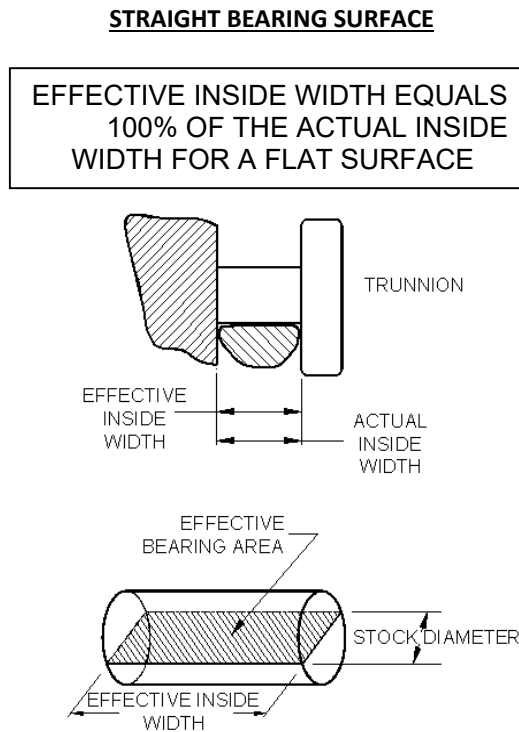

Figure 25
- a. **Connection to Flat-Bottom Surfaced Hardware** – Hardware connections with flat bottoms include pins, bolts and trunnions. The value of the effective contact width is equal to the opening width or spread of the sling at the connection area (See Figure 25). Please note, however, that the effective contact width will never exceed the natural flattening width of each sling, which are as listed in Tables 9 and 10 as the Minimum Effective Contact Width. For example, if a Size 2 polyester roundsling is connected to hardware that has a relatively large inside width, such as 4 inches, the effective contact width between the sling and hardware will not be higher than the natural flattening width of the sling, which is listed in Table 9 as being 1-3/8 inches.